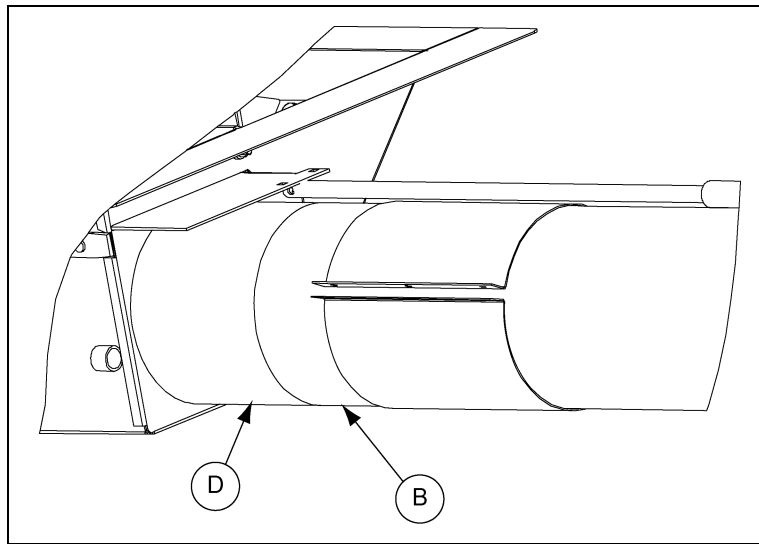

Figure 4G
5. Position the unload tube (B) flush against the centerwell tube (D). *(See Figure 4G.)*